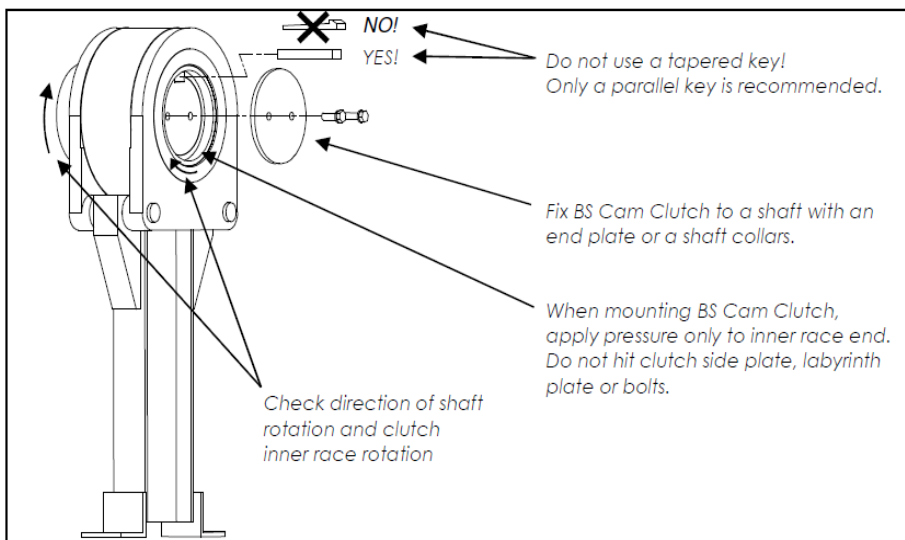

Fig 1
4. Only a parallel key is recommended for Backstop fixing. Do not use a tapered key. And there must be clearance between Backstop keyway and key top. The key should be in accordance with ANSI B17, 1-1967 (R 1998). See Fig 1 and 2.
5. Apply pressure only on the end face of inner race when installing the Backstop onto the shaft. Do not hit the side plate, labyrinth plate or bolts with a hammer. See Fig 1.